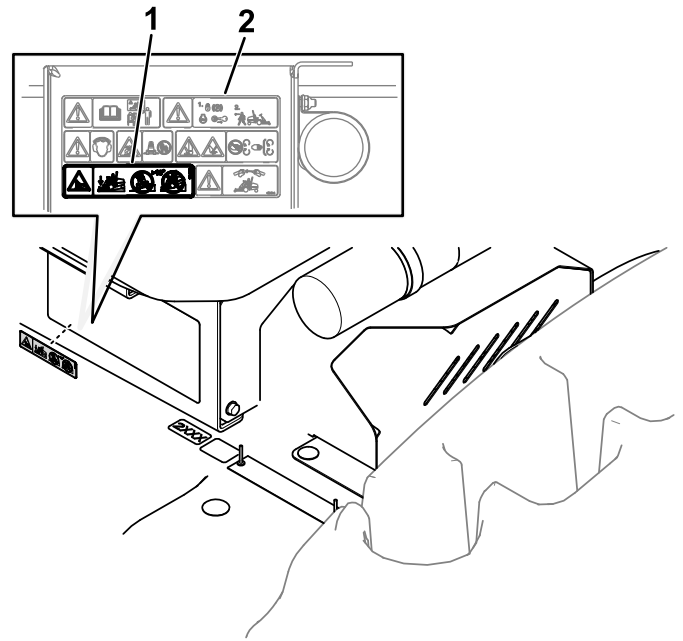

Figure 14
3. Apply over the area of the warning decal shown in Figure 14.
Important: Ensure that the application surface shown in Figure 14 is clean and dry before you apply the decal.